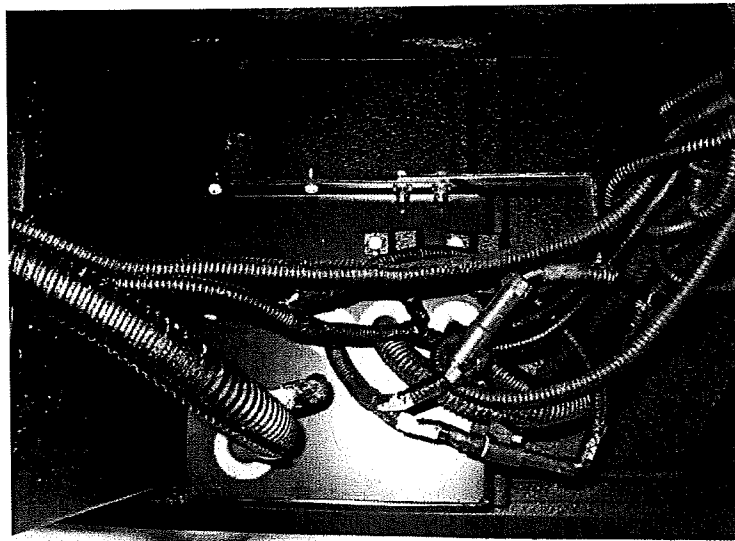

Figure 12
21. Move the enclosure up into the existing mount bracket. When positioning the enclosure, the top of the enclosure may be positioned inside or outside of the top of the mounting bracket, either way is acceptable. Align the mounting holes in the enclosure and mounting bracket and secure using four (4) Pan Head Self-tapping Screws, TBB 69003249. **Figure 12**